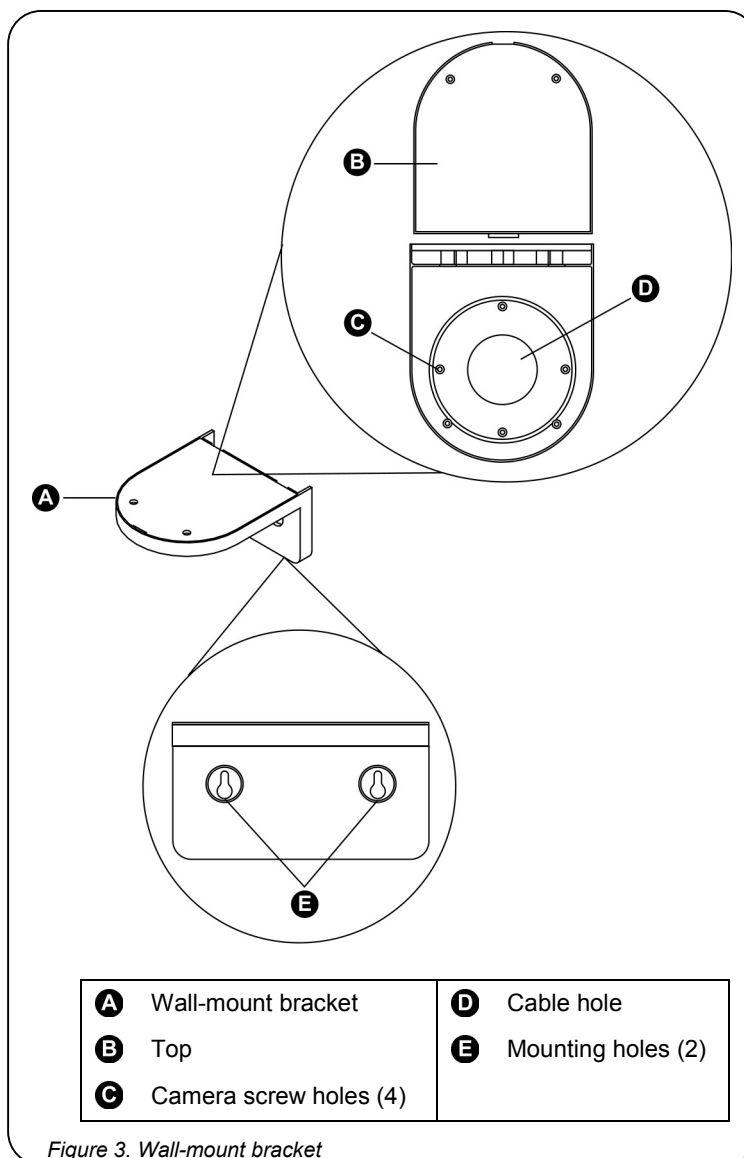

Figure 3. Wall-mount bracket
- 2) Mark the position of the mounting holes (see Figure 3).
- 4) With a screwdriver, remove the top of the wall-mount bracket (see Figure 3).
- 5) On the underside of the wall-mount bracket, screw the two provided 3.5X10-mm (brass) screws halfway into the holes that correspond with your camera (see Figure 3).
- 6) From the underside of the wall-mount bracket, feed the camera cables through the cable hole (see Figure 3).